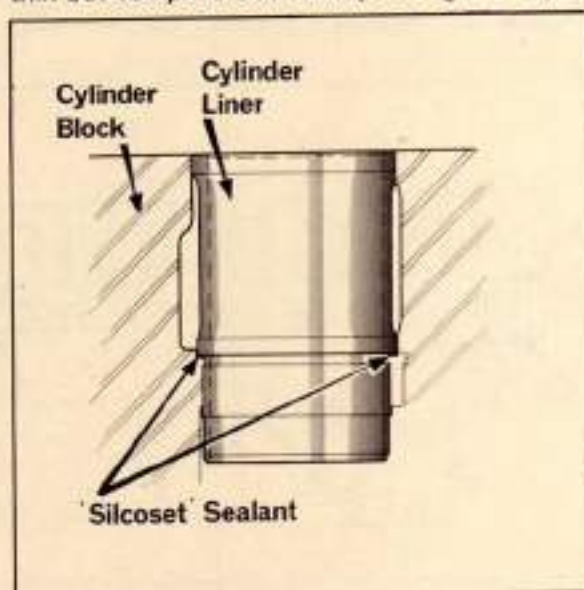

Figure 26 Sealing cylinder liners
- 1 Smear ICI 'Silcoset 152' sealing compound, thinly, around the seating face of the liner and its location in the cylinder block, making a thin but complete 360° seal (see **Figure 26**).